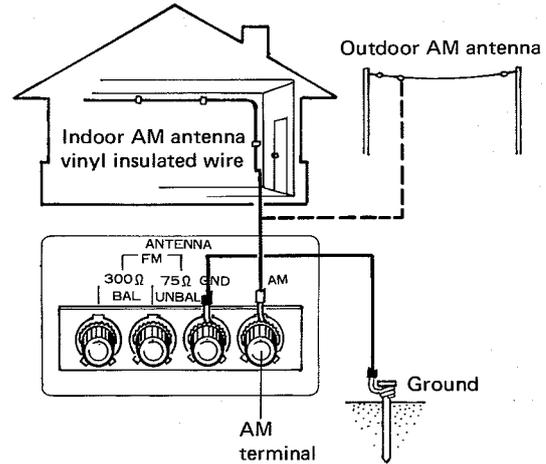

Fig. 9
- In cases when the bar antenna is insufficient for adequate reception, an indoor AM antenna can be made from a length (5 to 6 meters) of vinyl insulated wire. As shown in Fig. 9, connect one end of the wire to the AM antenna terminal and suspend the free end from a wall or ceiling as
- If reception is still not satisfactory with an indoor antenna, use vinyl insulated wire to erect an outdoor AM antenna between two supports as shown in Fig. 9.
For safety and reduced noise, employ a ground as shown in Fig. 9 if possible. Connect the ground lead to the GND terminal of the CX-7000. Consult a qualified electrician regarding proper grounding techniques.